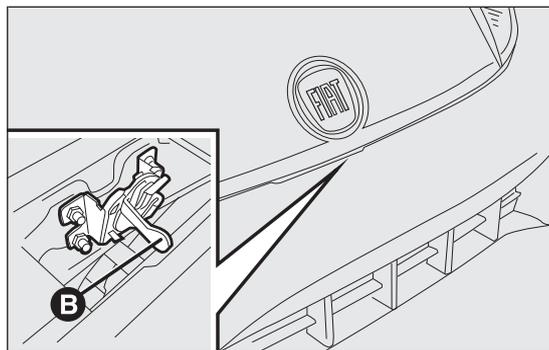

fig. 83
- operate the lever B fig. 83 and lift the bonnet;